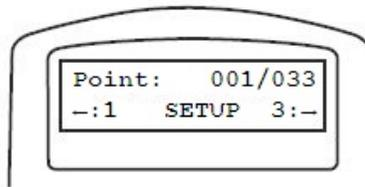

Fig. 33
- By pressing the **2** key, you will be shooting the exposures manually. The mount will prompt you to start the alignment. When you do, the mount will slew to the first picture position. The display will be similar to that in **Fig. 33**, which display's Picture Position 1 of 33. You would then take the picture using the camera's shutter release button. Press **3** on the hand control to slew to the next picture position and manually take the image. Continue this process until all images have been taken. At any time, if you want to go back and reshoot any of the picture points, you can press **1** to go through the points in reverse.